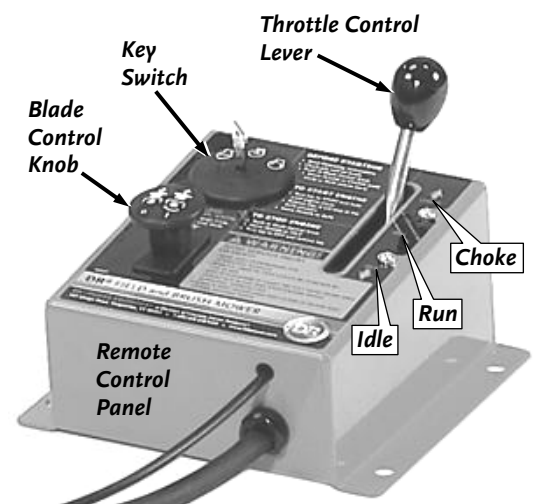

Figure 19
1. Disengage the Blades by pushing the Blade Control Knob down (**Figure 19**).
1. Engage the Blades by turning and holding the Key to the furthest right position as you pull UP on the Blade Control Knob (**Figure 19**). Release the Key and it will return to the run (middle) position.
1. Engage the Blades by pulling UP on the Blade Control Knob (**Figure 19**).
1. Push DOWN on the Blade Control Knob (**Figure 19**).